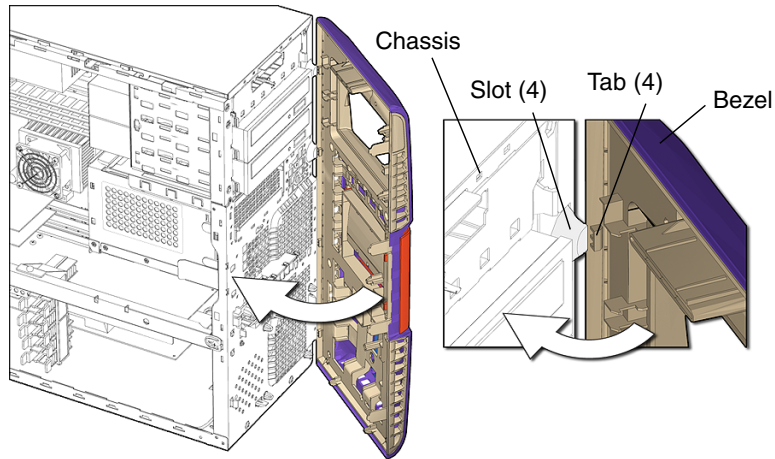

FIGURE 15-4 Aligning the Bezel
2. Locate where the bezel is to be installed (FIGURE 15-4).